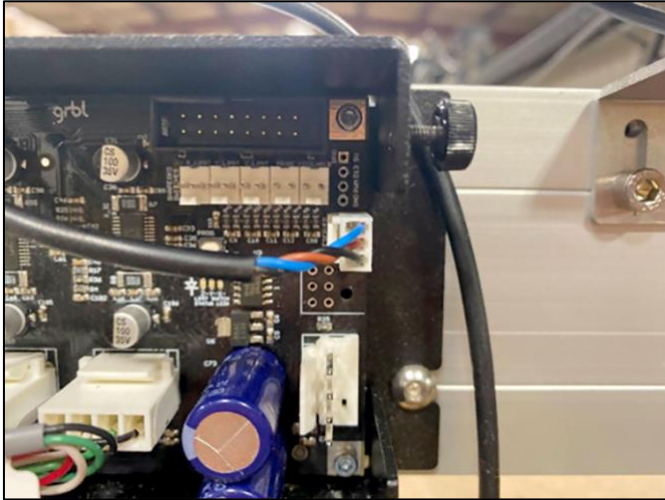

Figure 12
- a. If you only have the BitSetter, you can plug it directly into the port labeled *RESERVED* as shown in **Figure 12**.